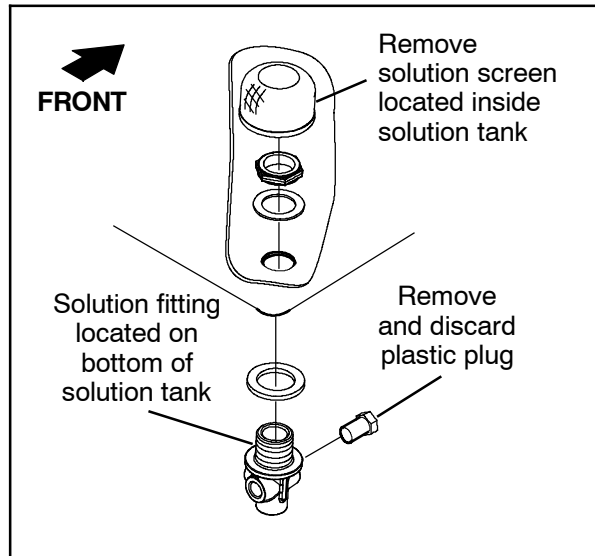

FIG. 7
15. Use hose clamps (11) to connect the items assembled in the previous step to the water solenoid valve (8) and the plastic straight fitting (6) in the solution pump (1). (Fig. 7)
21. Remove filter screen located inside the solution tank from the solution fitting. (Fig. 7)
22. Remove the solution fitting from the bottom of the solution tank. (Fig. 7)
23. Remove the plastic plug from the solution fitting. Discard the plastic plug. (Fig. 7)
25. Reinstall the solution fitting onto the bottom of the solution tank. (Fig. 6 / Fig. 7)
26. Reinstall the filter screen into the solution tank. (Fig. 7)